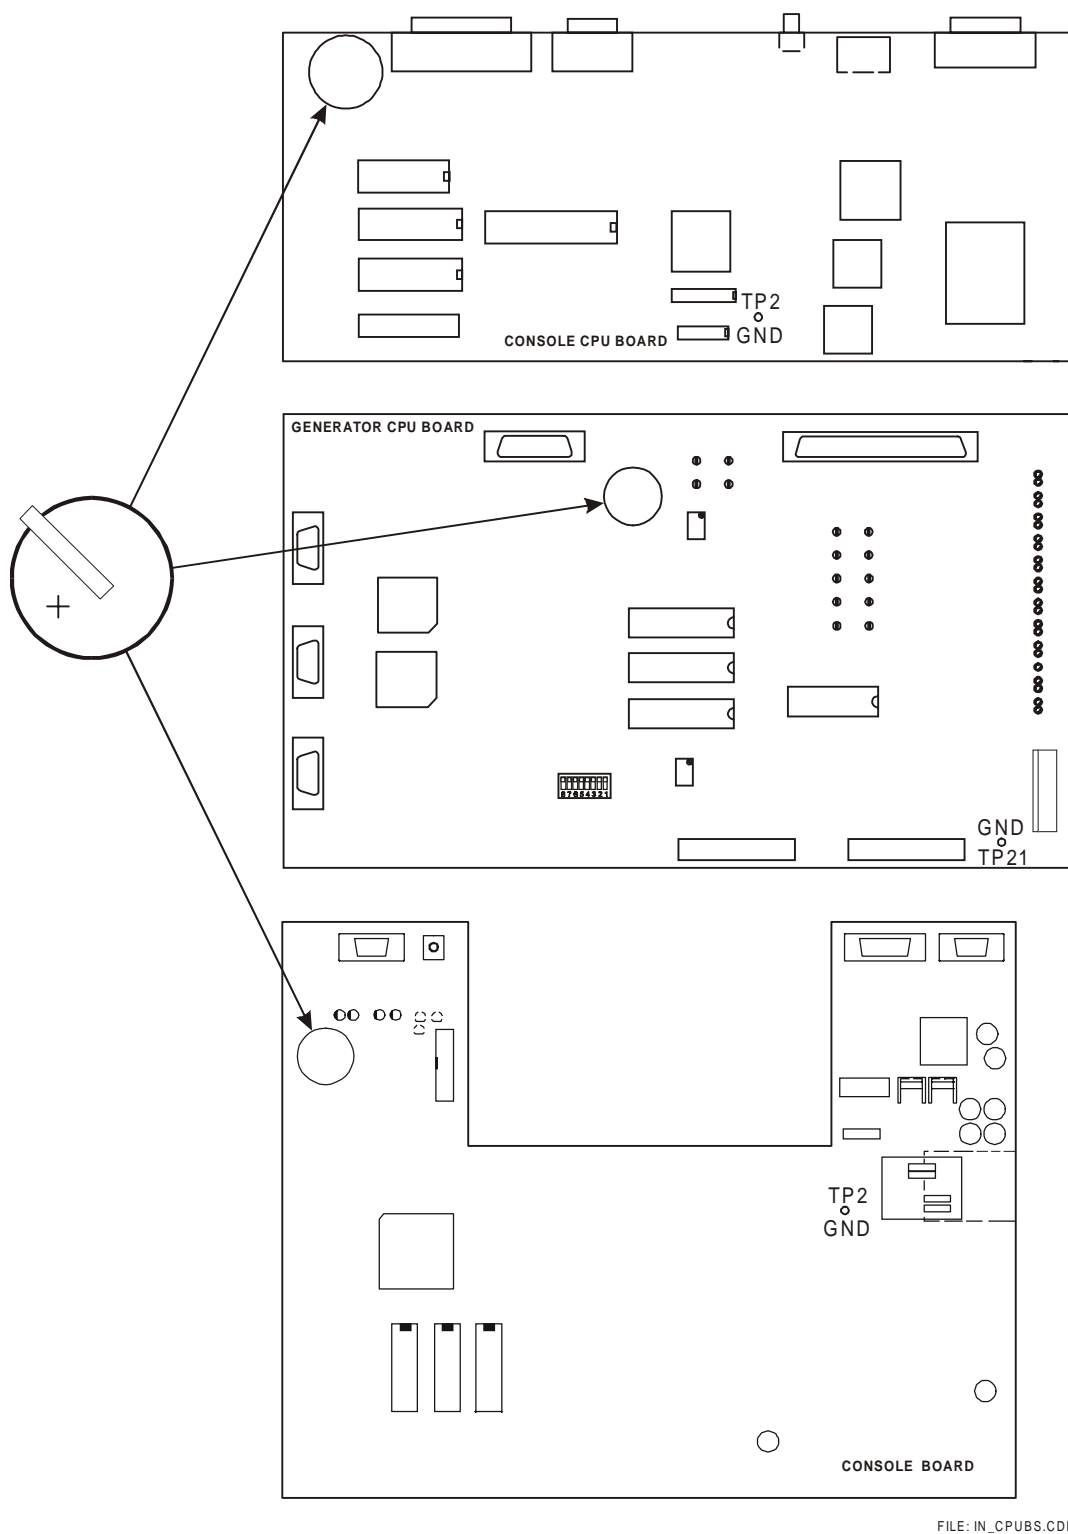

Figure 2-12: Location of batteries on generator and console CPU boards
3. Locate the battery on the console CPU board, refer to figure 2-12. Measure the battery voltage with a DVM. The top of the battery is the positive side; ground (TP2 on the board) is the negative side.
5. Locate the battery on the console board, refer to figure 2-12. Measure the battery voltage with a DVM. The top of the battery is the positive side; ground (TP2 on the board) is the negative side.
1. Locate the battery on the generator CPU board, refer to figure 2-12. Measure the battery voltage with a DVM. The top of the battery is the positive side, ground (TP21 on the board) is the negative side.